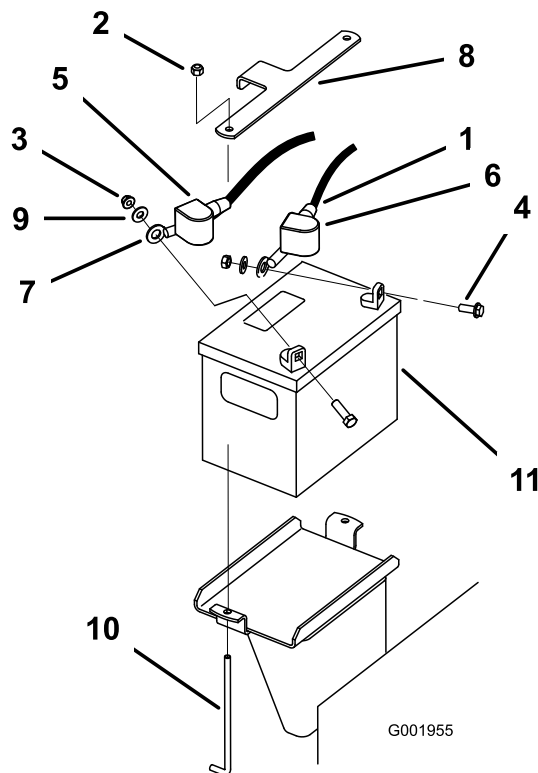

Figure 34
3. Lift the black rubber cover on the negative cable. Disconnect the negative battery cable from the negative (-) battery terminal (Figure 34).
4. Slide the red terminal boot off the positive (red) battery terminal. Then remove the positive (red) battery cable (Figure 34).
5. Remove the battery hold down plate (Figure 34) and remove the battery.
1. Place the battery onto the machine (Figure 34).
3. First, install the positive (red) battery cable to positive (+) battery terminal with a nut, washer and bolt (Figure 34). Slide the rubber cover over the post.
4. Then install the negative battery cable and ground wire to the negative (-) battery terminal with a nut, washer and bolt (Figure 34). Slide the rubber cover over the post.